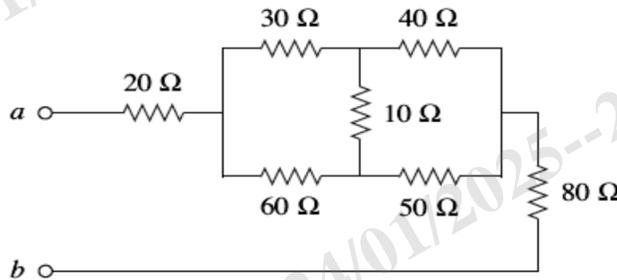

Fig. 5
- Q3** Derive the formula for conversion of star connected resistances to delta connected resistances and vice-versa. Also, find the equivalent resistance R_{ab} in the circuit shown in Figure 5. (16)